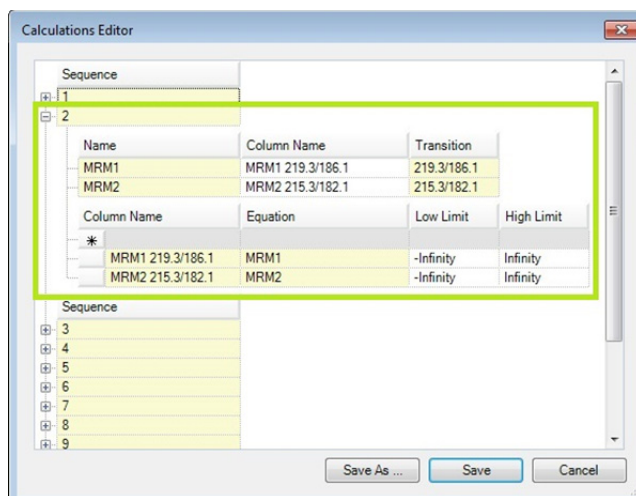

Figure 8. Calculations Editor
- 2 In the **Calculations Editor** dialog, find the Sequence you want to change and click the **Expand** button (**Figure 8**).
- The first table contains the experiment data. In **Figure 8**, the first table shows a row for each MRM. In Sequence 2, two MRMs were run on the instrument. The information in pale yellow cells cannot be changed. Only the **Column Name** can be changed in the first table.